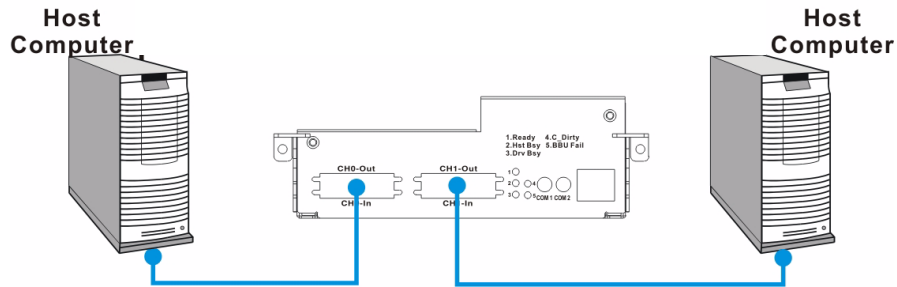

Fig. 5.3 Dual Host Connection
In the example shown in *Figure 5.3*, the two (2) SCSI ports on the RAID subsystem are connected to two (2) different host computers and an Ethernet cable connects both computers to each other. This configuration provides both path and host computer redundancy. If one of the host channels becomes disconnected for some reason, or the cable connecting one of the host ports to the host computer is damaged, the second path can transmit data from the subsystem to the host computer. Similarly, in the clustered hosts configuration, the same array can be accessed through different data paths and downtime will be minimized.